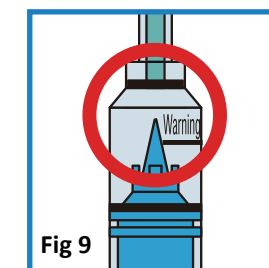

Fig 9
8. Do not push the plunger over the "warning" line before injection (Fig 9).